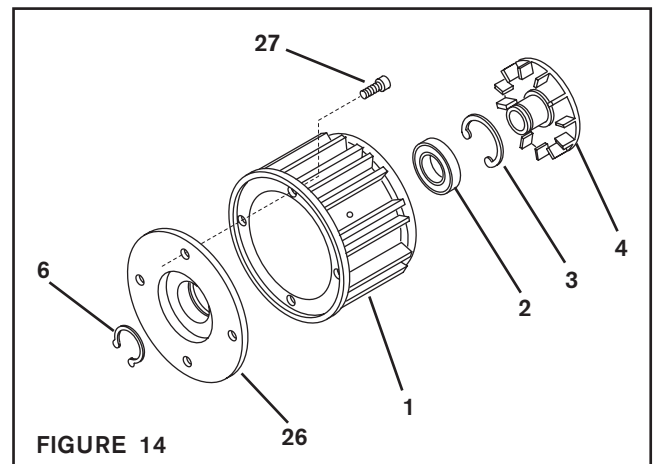

FIGURE 14
2. Remove the four Socket Head Cap Screws (Item 27) (See Figure 14).
3. Remove the Female Pilot (Item 26) from the Housing (Item 1) (See Figure 14).
4. Remove the Retaining Ring (Item 6) and press the Drive Disc (Item 4) out of Female Pilot (Item 26) (See Figure 14).
5. Remove the Retaining Ring (Item 3) (See Figure 14).
6. Fully supporting the Female Pilot (Item 26), press the old Ball Bearing (Item 2) out of the Female Pilot (See Figure 14).
7. Clean the bearing bore of the Female Pilot (Item 26) with fresh safety solvent, making sure all old Loctite® residue is removed (See Figure 14).
8. Apply an adequate amount of Loctite 680 to evenly coat the outer race of the new Ball Bearing (Item 2) (See Figure 14).
9. Supporting the Female Pilot (Item 26) and pressing on the outer race of the new Ball Bearing (Item 2), press the new Ball Bearing into the Female Pilot (See Figure 14).
10. Reinstall the Retaining Ring (Item 3) (See Figure 14).
11. Support the inner race of the new Ball Bearing (Item 2) and press the Drive Disc (Item 4) into the new Ball Bearing and Female Pilot (Item 26) (See Figure 14).
12. Reinstall the Retaining Ring (Item 6) (See Figure 14).
13. Using the four Socket Head Cap Screws (Item 27), secure the Female Pilot (Item 26) to the Housing (Item 1) (See Figure 14).